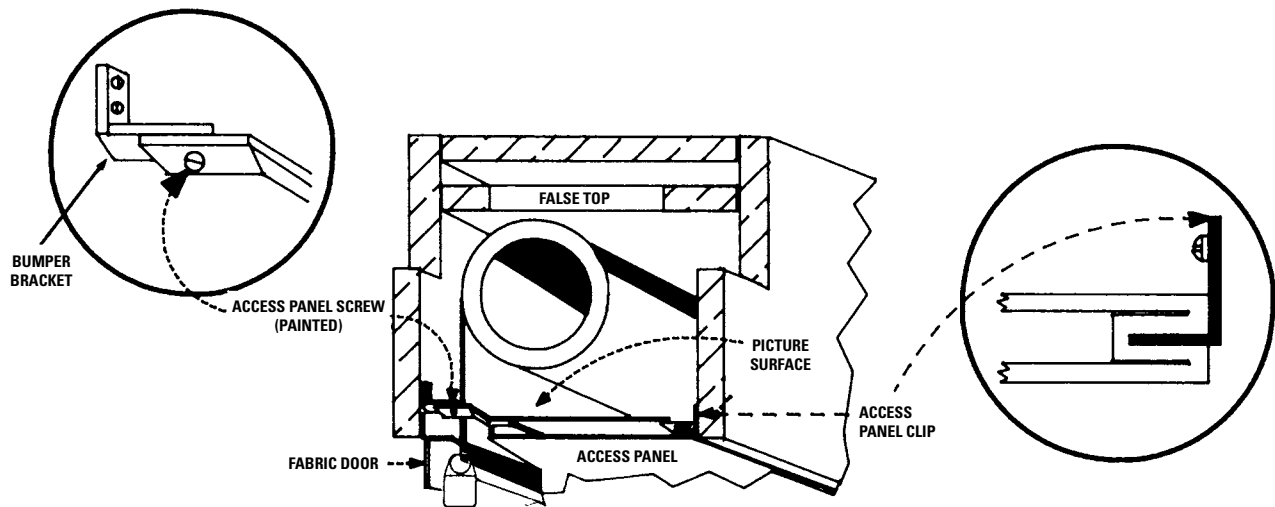

FIGURE 2
5. Picture surface should hang freely. (Fig. 2) Remove any tape left hanging on back of fabric. Bottom edge should be positioned between bottom edge of case and center of roller.
1. Press switch "down" so that fabric door opens (Fig. 2).
2. Remove screws (2) located on each bumper bracket.